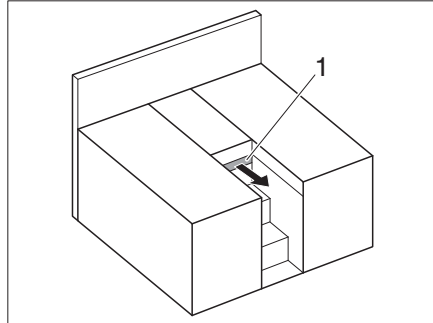

Fig. 159 Single beds
- Pull out the extension (Fig. 159,1).